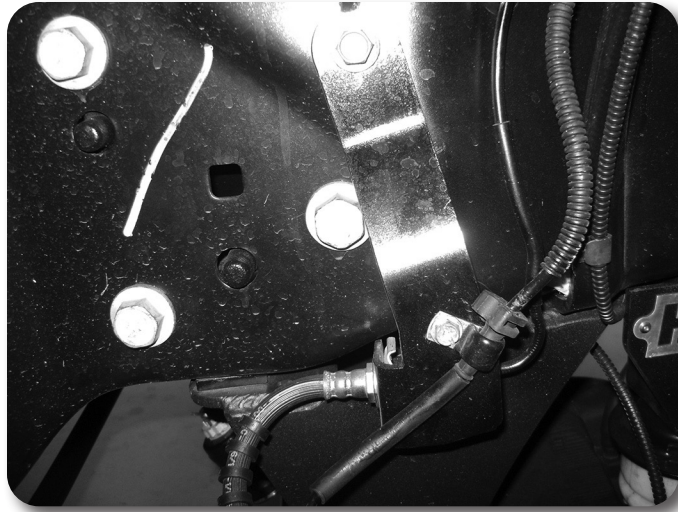

Figure 14B (Driver's Side)
37. Attach the ABS wire to the driver's side with 1/4" hardware with rubber coated cable clamp Figure 14B Tighten to 101 in-lbs.